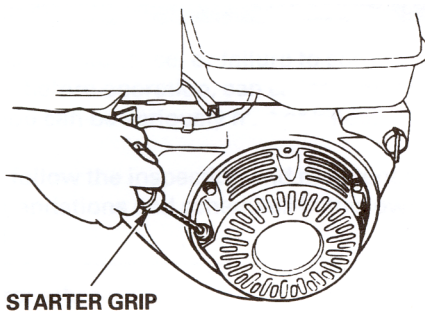

Fig. 13: Recoil Starter
- e. Start the engine. Pull the start grip lightly till you feel resistance, then pull briskly (Fig. 13). Return the starter grip gently. **TO PREVENT DAMAGE TO THE STARTER, DO NOT ALLOW STARTER GRIP TO SNAP BACK AGAINST THE ENGINE.**